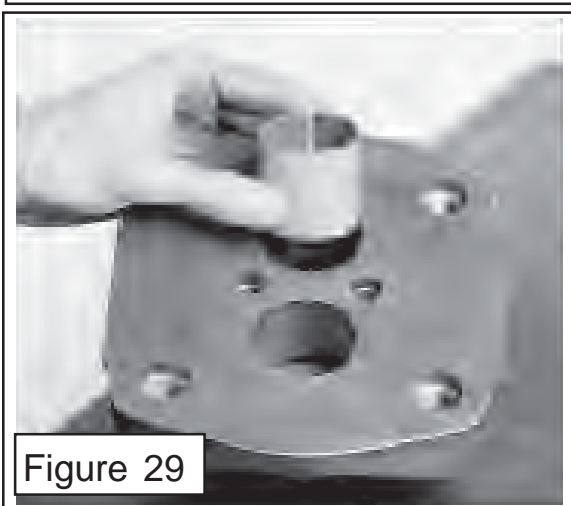

Figure 29
4. Note: Steps 5, 6, 7 & 8 apply to Shaft End Cover and Port End Cover (**figure 15**) Any bushing removed from the shaft end cover, port end cover or bearing end cover should be assembled in the drive bores with the grooves to the top of unit (**12 O'clock**). Assemble the bushings in the driven bores with the groove to the bottom of the unit (**6 O'clock**). The Grooves refer to the bearing seam (**figure 29**).